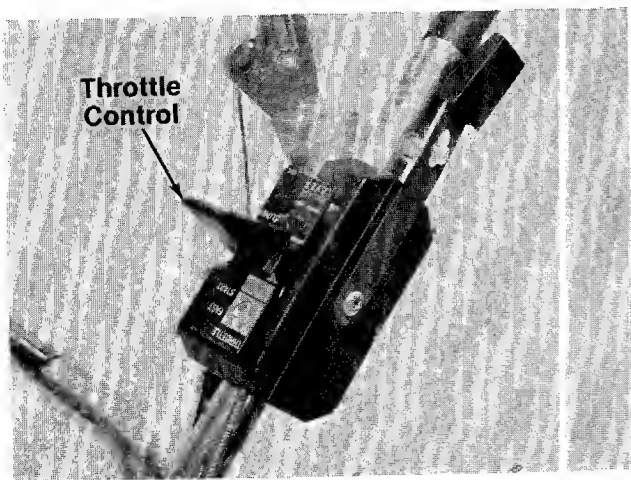

FIGURE 13.
- b. Push release lever (see figure 13), then squeeze blade control handle against upper handle.
The throttle is located on the left side of handle. It controls engine speed. See figure 13.